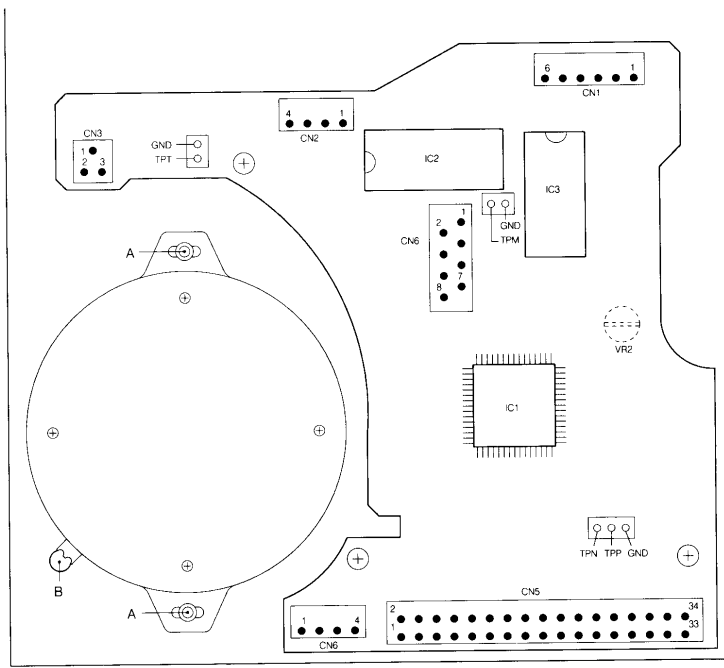

Fig. 3
- Connect channel A of the oscilloscope via a 10:1 probe with test point TPN (for a survey of the test points, see figure 3).
- Loosen the screws A (see figure 3) of the stepping motor a quarter turn.
- Rotate the stepping motor (by means of a screwdriver in alignment point B, see fig. 3) until all lobes of the cat's eye pattern have the same amplitude.